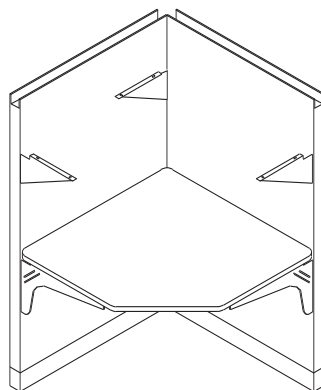
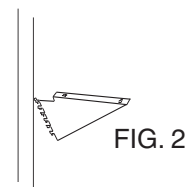

FIG. 1
FIG. 2
2. You will receive (3) 14" deep cantilever brackets with the corner bookshelf: (2) left-hand brackets and one right-hand. The right-hand bracket will install at the right end of the corner bookshelf. One of the left-hand brackets will install at the left end of the corner bookshelf, and the other left-hand bracket will install in the back corner off the right side panel (Figure 1).
3. Install the (3) cantilever brackets in the slotted trimrail about 2" below the pencil mark you made in step 1.
4. Holding the front edge of the cantilever bracket higher than the rear edge (Figure 2), slide the top safety tooth into the appropriate slot on the trimrail.